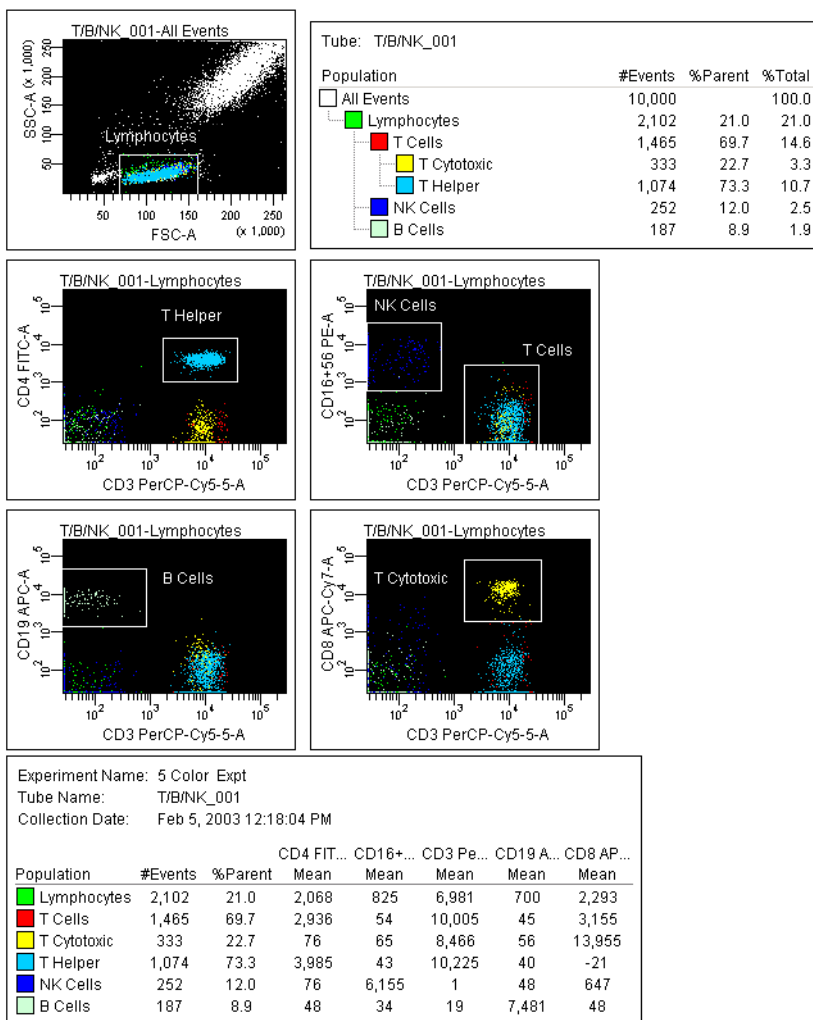

Figure 4-11 Lymphocyte analysis
This section describes how to set up plots, gates, and a statistics view to analyze the recorded data. By the end of this section, your analysis should look similar to that shown in Figure 4-11 on page 134.
- 3 Resize the plots so they fit on one page, as shown in Figure 4-11 on page 134.
See Figure 4-11 on page 134 for an example.